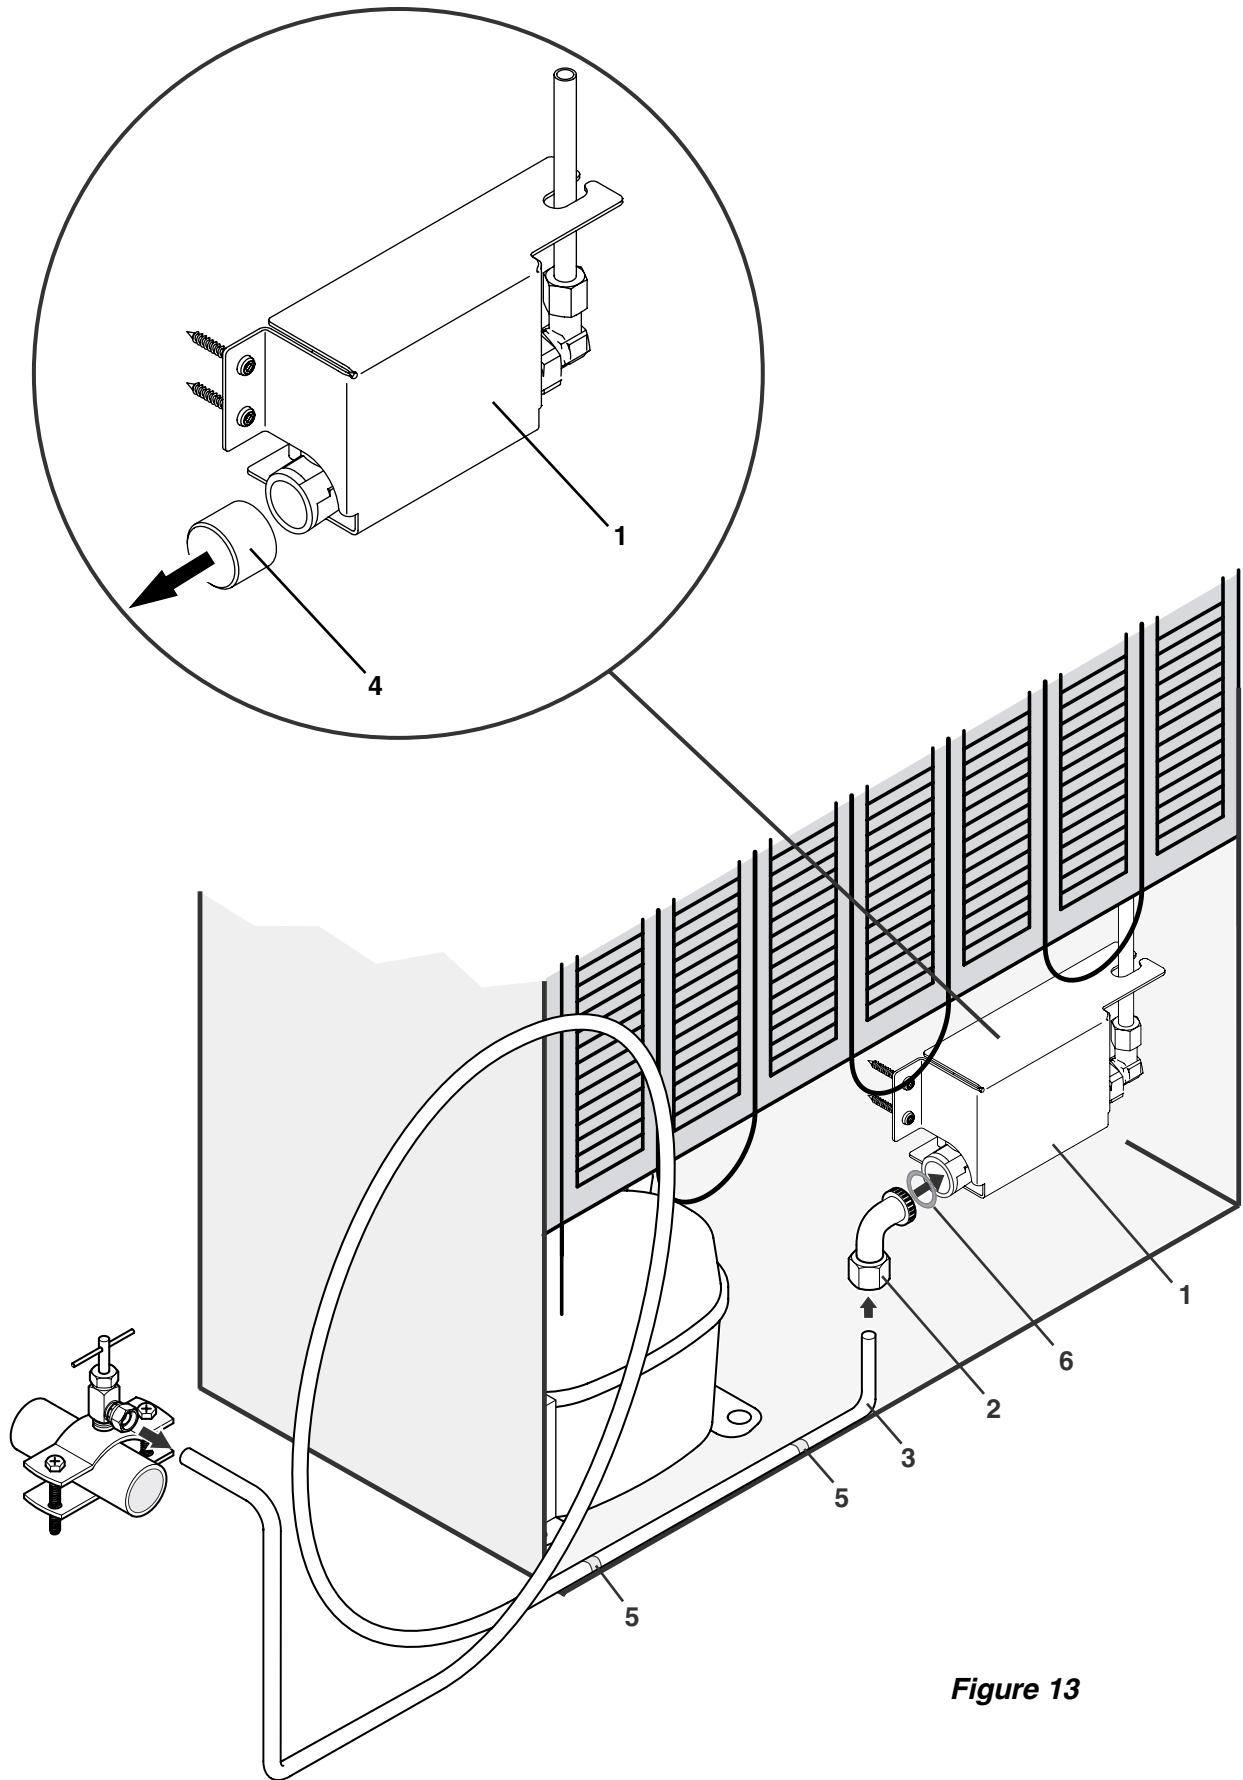

Figure 13
3. Remove the cover cap (**Fig. 13, 4**) from the solenoid valve (**Fig. 13, 1**). Install the brass adapter (**Fig. 13, 2**) with sealing ring (**Fig. 13, 6**) on the solenoid valve (**Fig. 13, 1**). Attach the copper tube to the brass adapter (**Fig. 13, 2**). Secure the copper tube (**Fig. 13, 3**) to the appliance using the cable clip (**Fig. 13, 5**).